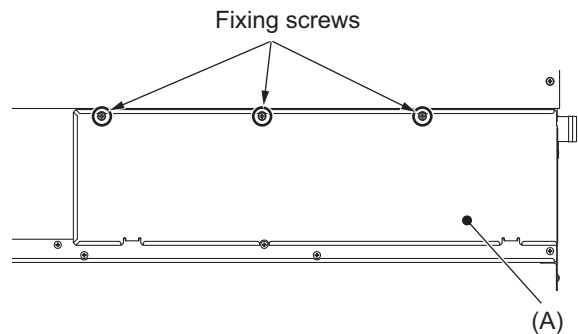

Fig.1
- (1) Remove the fixing screws (three) of the control box (A), and remove the cover. (Fig.1)